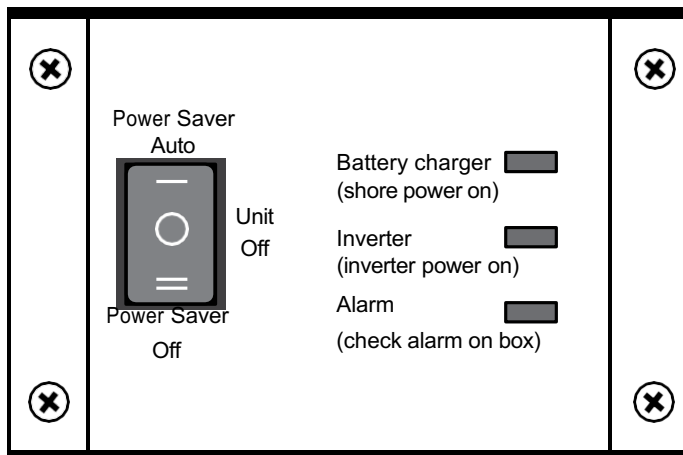

Figure 1-25
1. To begin, the inverter's power switch (located on the top of the inverter case) should be in the "UNIT OFF" position. (See *Figure 1-25*)
4. Move the switch on top of the inverter from the "Unit Off" position to the "Power Saver Off" (ON) position.